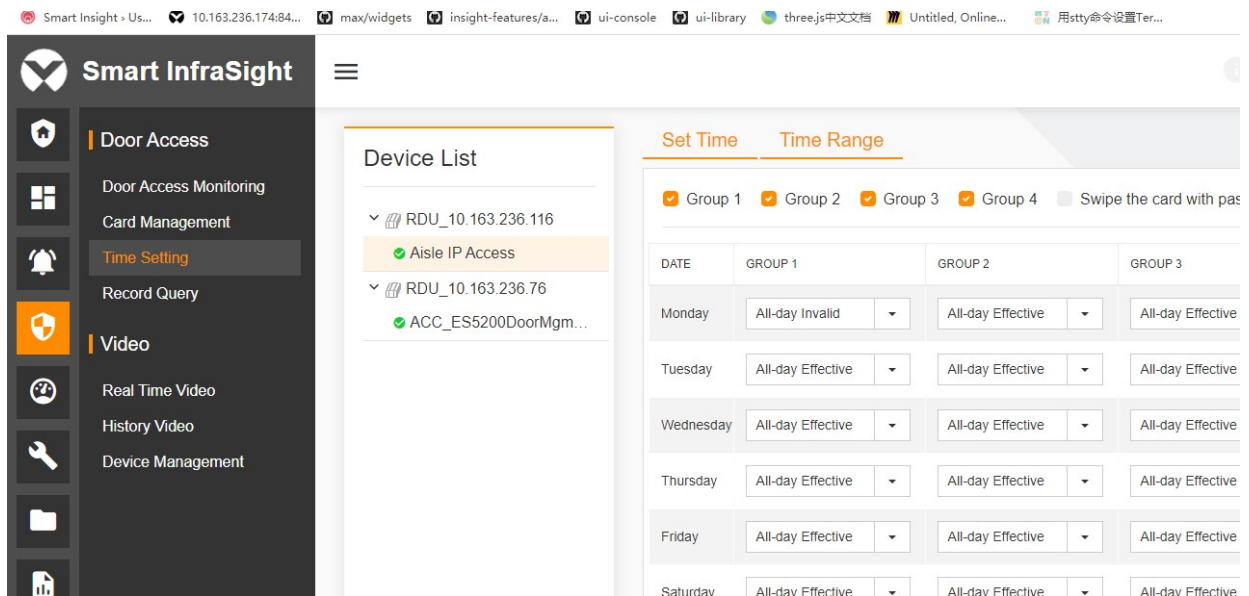

Figure 13-11 Setting the time range
2. To modify the door opening time of a group, you can select the door opening time range of the corresponding group. For example, modify the door opening time range of Group 1 on Monday to **All-day Invalid**, and click **Save**, as shown in Figure 13-11.